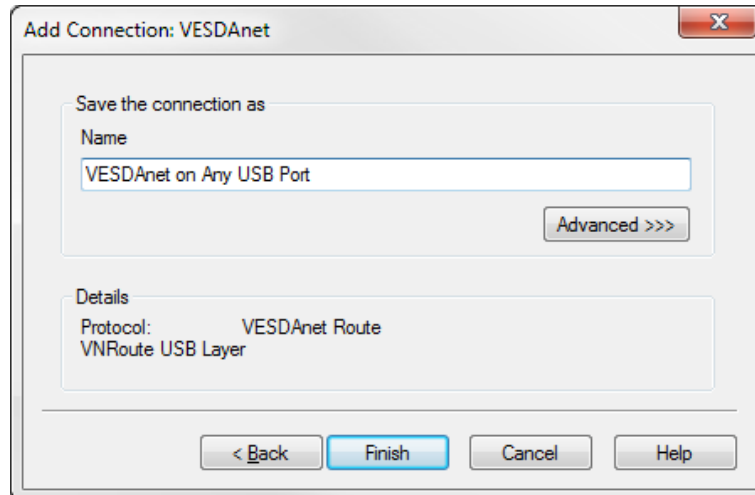

Figure 5-4: Enter a Connection Name
2. Enter a unique name for the Connection or accept the pre-generated name, then select **Finish** (Figure 5-4).